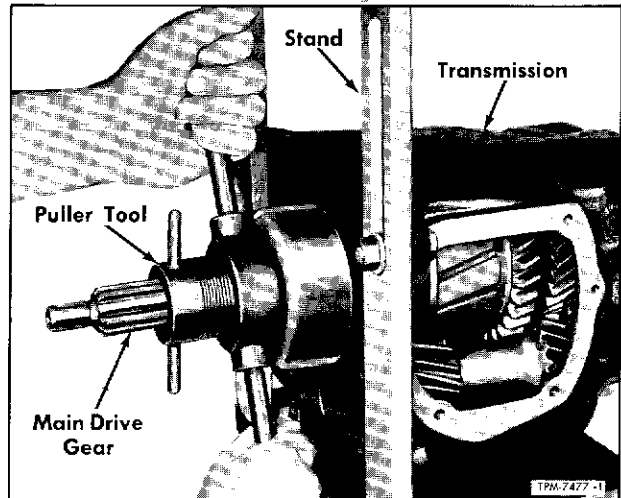

Figure 2—Removing Main Drive Gear Assembly
5. Install special main drive gear shaft and bearing puller tool (J-937) by threading sleeve (left-hand threads) onto main drive gear shaft (3). Turning the puller handle will remove the main drive gear and bearing assembly without damage to mainshaft pilot bearing rollers (fig. 2).